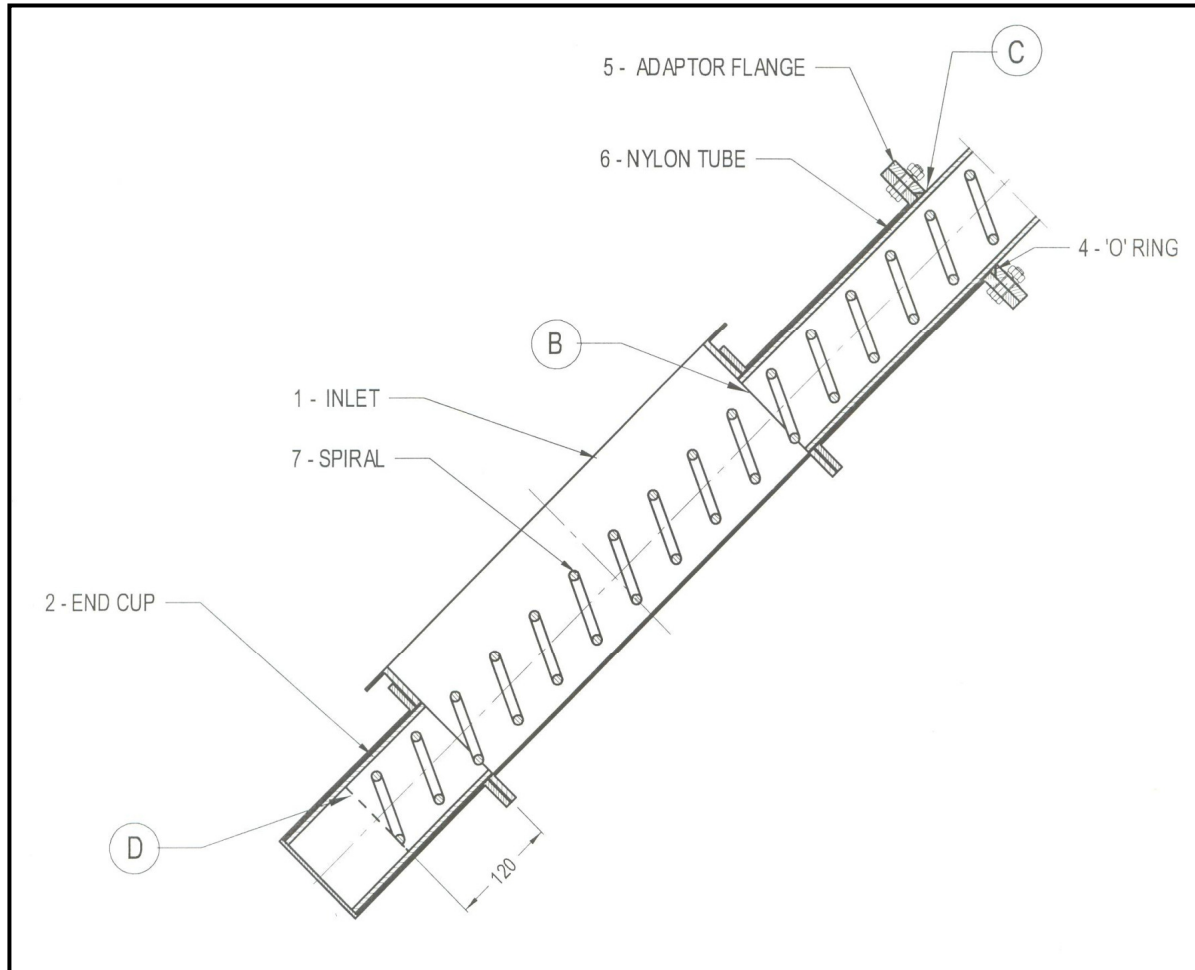

FIG. 1
- 4.6 Mark the NYLON TUBE (6) at point "C" (→ see Fig. 1).
- 4.7 Unbolt the INLET (1) from the feed hopper and mark the NYLON TUBE (6) at point "B" (→ see Fig 1).
- 4.10 On the withdrawn end of the NYLON CONVEYING TUBE (6) cut the remaining length of the TUBE (6) at point "B" (→ see Fig. 1)
- 4.11 Install the shortened NYLON TUBE (6) inside the INLET (1) repeating step 4.5 and paying attention to position point "C" as marked in step 4.5 at the edge of the ADAPTOR FLANGE (5) (→ SEE Fig. 1).
- 4.14 On the SPIRAL (7) measure a distance of 120 mm from the end wall of the INLET (1) (→ see point "D" Fig. 1) and cut the remaining length of spiral.
- 4.15 Fit the END CUP (2) to the INLET (1) (→ see Fig.1) and secure with two bolts.